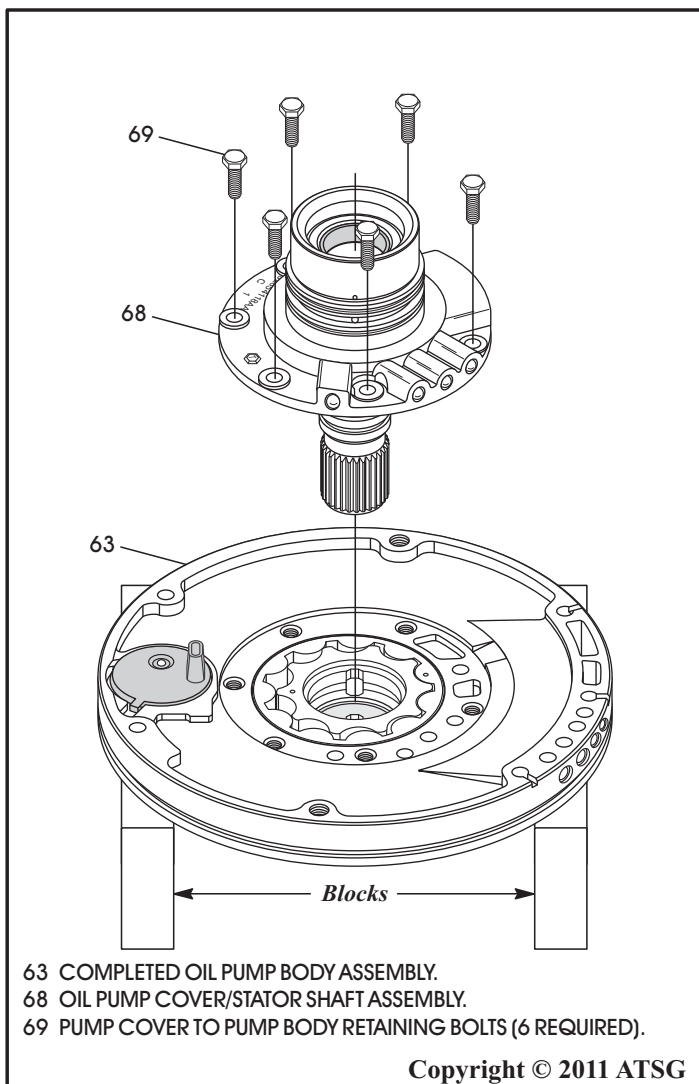

Figure 107
14. Place the completed oil pump body on blocks, as shown in Figure 107.
15. Install the completed oil pump cover/stator, as shown in Figure 107.
16. Install the six oil pump cover to oil pump body retaining bolts, as shown in Figure 107.